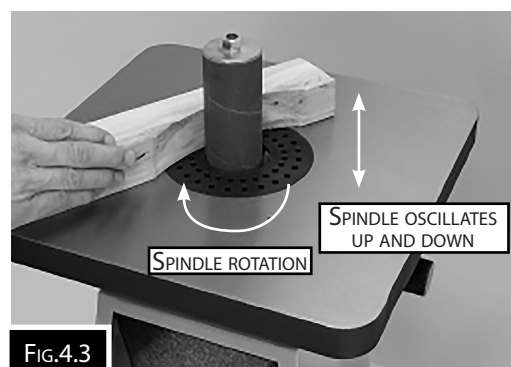

FIG.4.3
3. Looking from the front of the machine, the motor turns in a clockwise direction. Always feed the work across the spindle, against the direction of the spindle rotation. (Fig.4.3)